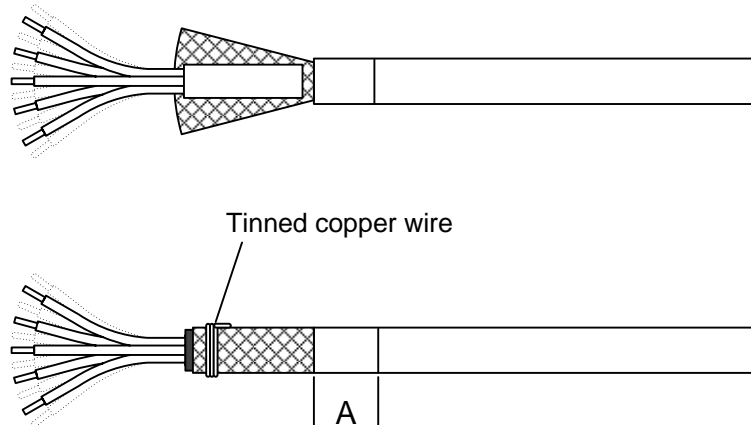

Figure 4
5.7 Position the heat shrink packing sleeve under the 20mm of the cable shield and shrink in place. Secure the ends of the shield with tinned copper wire, ensuring that the twisted ends are folded flat against the shield. The shield is now built up to a similar diameter to the cable jacket. See Figure 4.